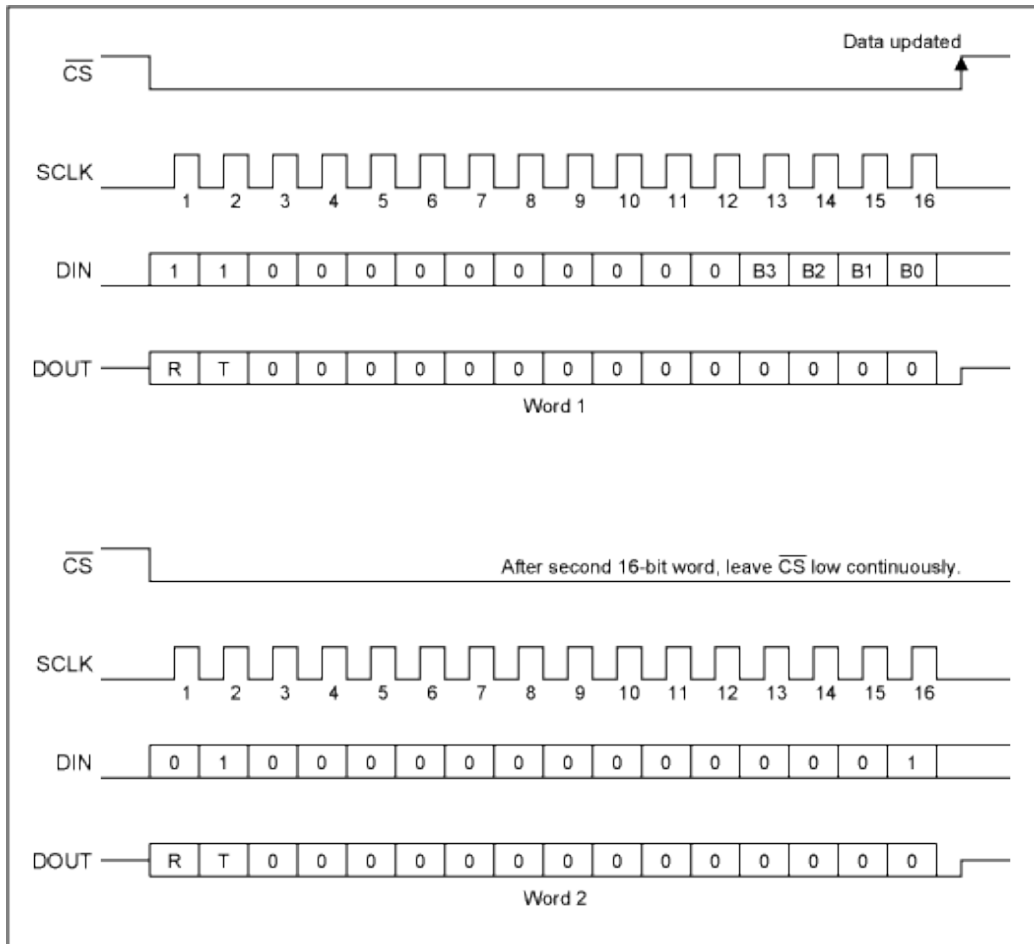

Figure 3. These 16-bit words configure IC2 (Figure 1) in its baudx16 test mode.
Using the SPI interface, you configure IC2's baudx16 test mode with two 16-bit digital words (Figure 3), in which bits B3–B30 are set according to a baud-rate selection table (see below). The two words set the baud rate for the baudx16 clock. They can be loaded with a programmable lab-data generator such as the Tektronix DG2020(A) or a low-cost microcontroller like the PIC16F84. The SPI port is used for this operation only once.